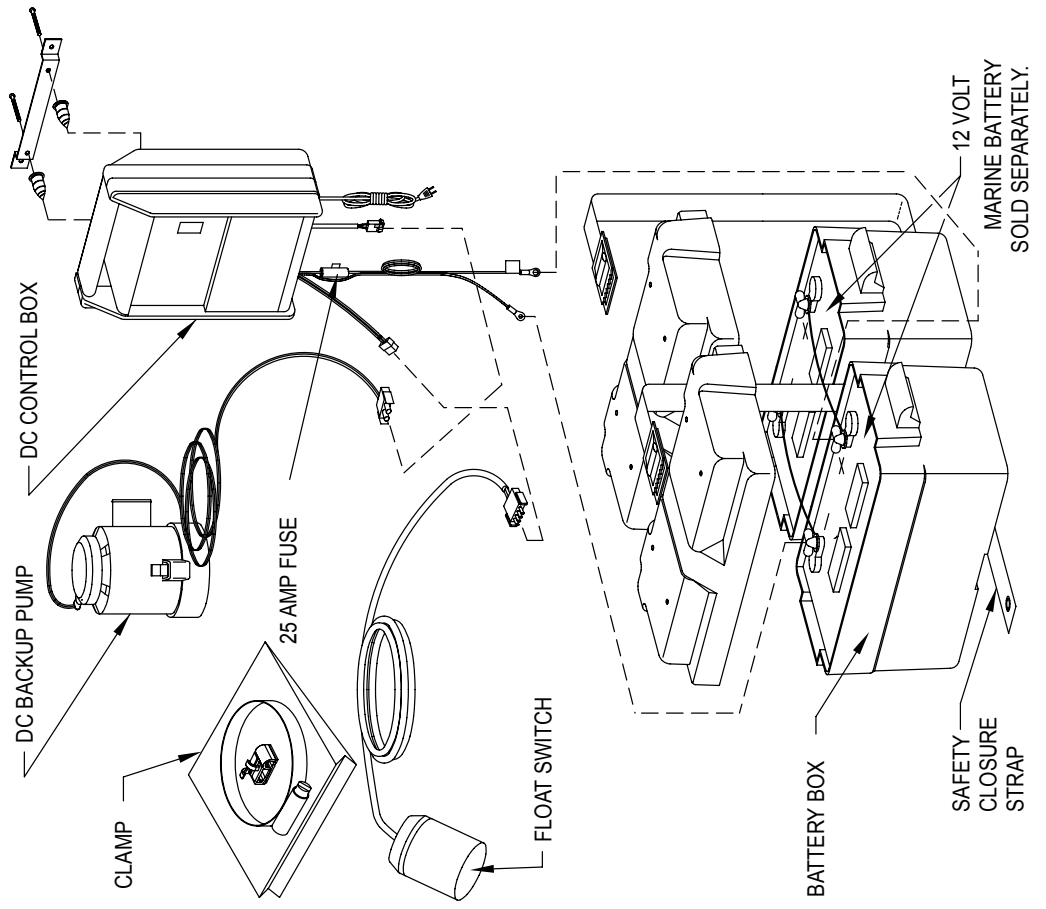

FIGURE 5
12. Install DC control box in suitable location by using the wall bracket and anchors provided. (See fig. 5). Place fully charged battery in plastic battery box.
16. Connect the plugs from the pump and the float switch to the control box terminals. Refer to fig. 5 and 6 for location of each terminal plug.